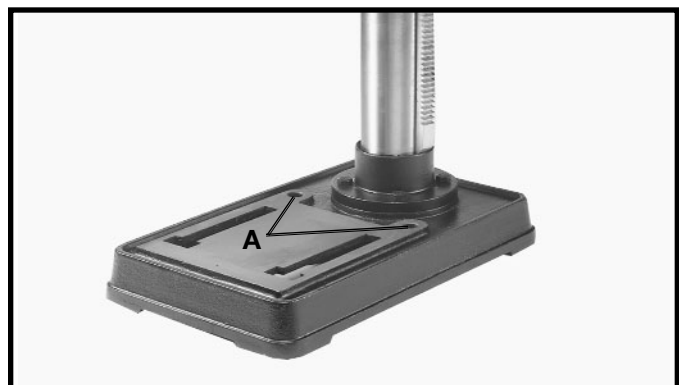

Fig. 17
If during operation there is any tendency for the drill press to tip over, slide or walk on the supporting surface, the drill press base must be secured to the supporting surface with fasteners through the two holes (A) Fig. 17, located in the drill press base.